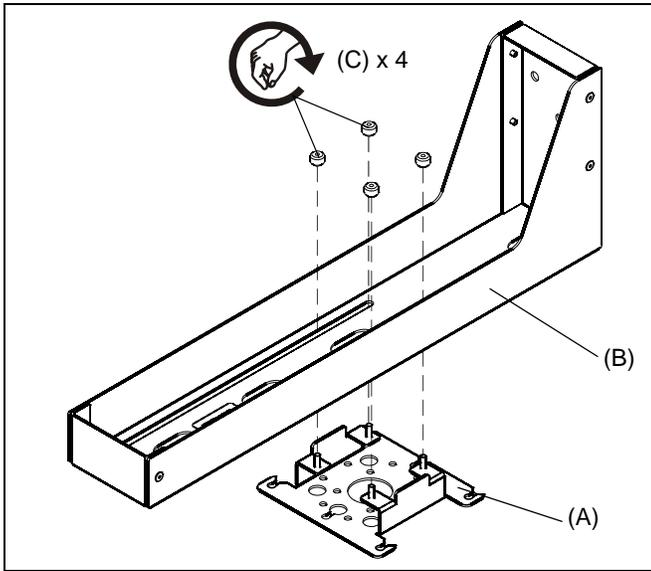

Figure 1
**NOTE:** If attaching optional RPA or RPM interface bracket, wall mount adjustment bracket (A) must be attached to RPA or RPM bracket before being attached to the wall bracket (B). Proceed to Attaching to RPA or RPM Interface Bracket section for details.
1. Attach wall mount adjustment bracket (A) to the wall bracket (B) using four thumb-nuts (C). (See Figure 1)